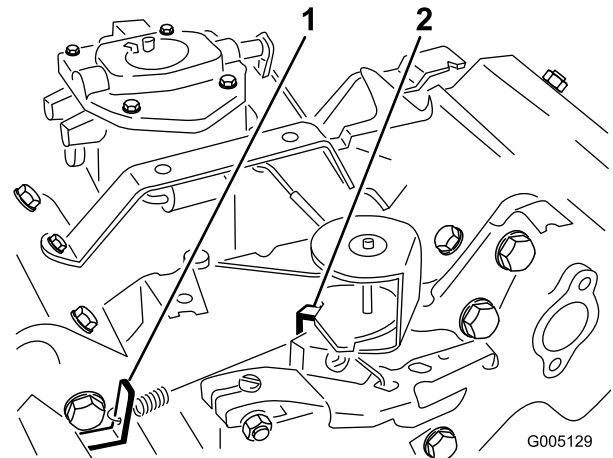

Figure 51
3. Bend the governed idle spring anchor tang (Figure 51) to attain an idle speed of  $1650 \pm 100$  RPM. Check the speed with a tachometer.
5. Move the throttle control to the Fast position. Bend the high speed spring anchor tang (Figure 51) to attain a high speed of  $2850 \pm 50$  RPM.